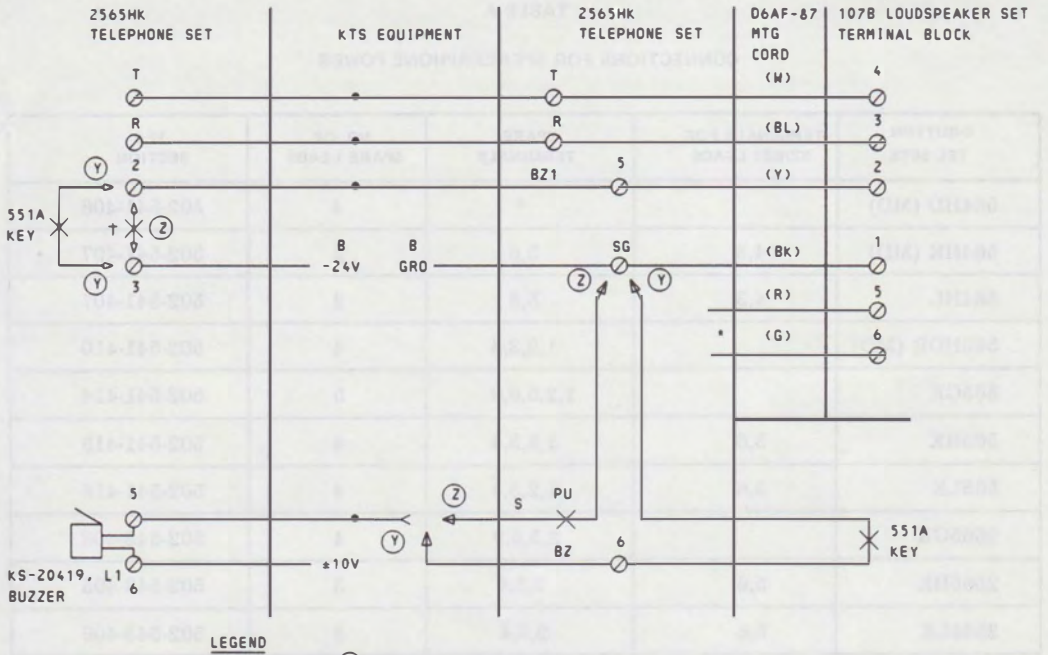

Fig. 1—Example of Connections for Voice and Conventional Signaling Arrangements for Manual Intercom Using 2565HK Telephone Set
3.07 Bring the loudspeaker mounting cord directly into the telephone set and insulate and store R and G leads. The power supply may be brought into the telephone set over spare cord conductors and connected to the loudspeaker set cord using spare terminals as shown in Table A and Fig. 1.
4.01 Connect loudspeaker set mounting cord to telephone set (see Fig. 1) as follows:
- Connect (W) lead to tip of manual intercom line.
- Connect (BL) lead to ring of manual intercom line.
- Connect (Y) lead to BZ1 lead of telephone set using spare terminal as shown in Table A. If BZ1 is not available, use spare conductor in telephone set mounting cord (see Fig. 1).
- Connect (BK) lead to SG terminal of telephone set.
Note: Fig. 1 shows connections for a buzzer circuit in addition to intercom signaling. If buzzer is not required, these connections can be omitted.